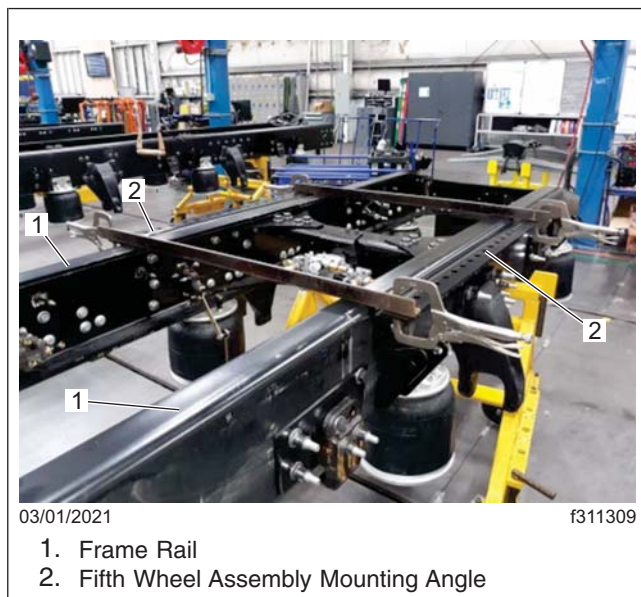
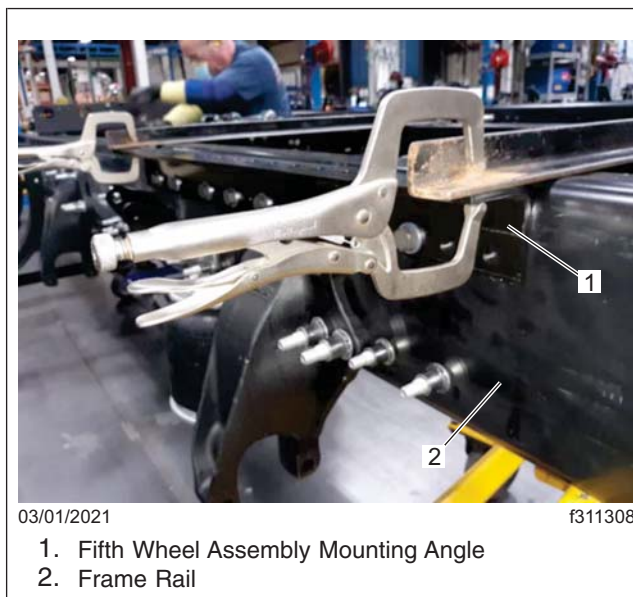

Fig. 2, Top of Angles Flush with Frame Rails
Fig. 3, Top of Angles Flush with Frame Rails
4. Install the new fifth wheel assembly mounting angles on the frame rails. Verify that the top mounting surfaces of the angles and the top flange of the frame rails are flush. See Fig. 2 and Fig. 3.